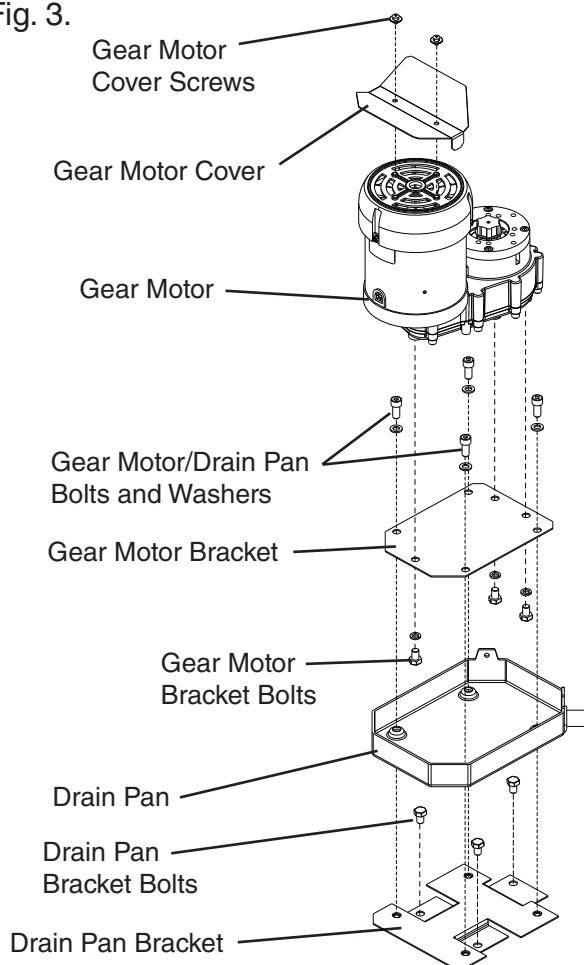

Fig. 3
- 7) Remove the gear motor/drain pan bolts. See Fig. 3.